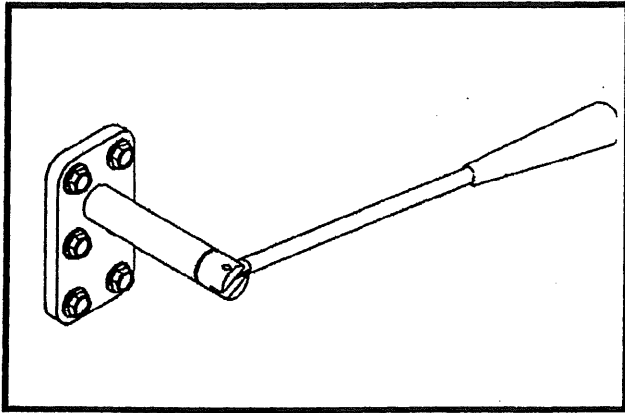

Figure 1-11
**There are two distinctly different pump and control valve assemblies used on the S5000 V-drive transmission. The two designs are interchangeable as complete assemblies, but for the most part their internal parts are different. The manual control valve (212), spring (217) and screen (222) are the only common internal parts.**
1. The GEROTOR type is the latest design and quickly discernible by placing a magnet against the steel cover plate (215) see Figure 1-11.
2. The CRESCENT type is the earlier design and has an aluminum cover plate (215) which will not attract a magnet.